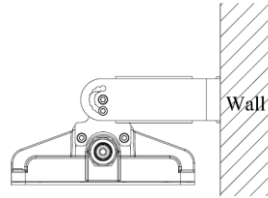
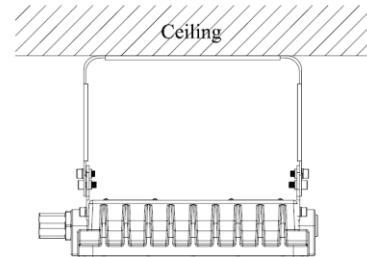

Figure 1
Figure 2
- ☞ The mount bracket is for the use of both wall mount (Figure 1) and ceiling mount (Figure 2).